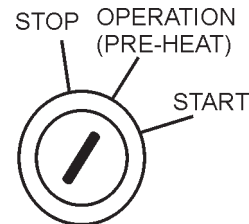
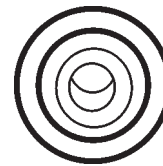

Figure 42. Ignition Switch (Operation Pre-Heat Position)
Figure 43. Pre-Heat Indicator Lamp
- Preheat the engine **glow plugs** by turning the ignition key (Figure 42) to the **“OPERATION”** position.
- When the preheat lamp illuminates (Figure 43), turn the ignition key to the **“START”** position. Once the engine starts, release the ignition key and allow it to return to the **“OPERATION”** position (Figure 42).